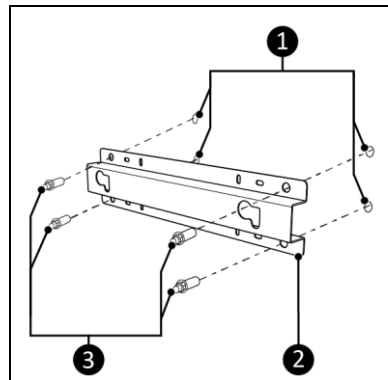

Figure 12
4. Place the bracket against the wall and mark the four holes (Figure 12, pos. 1). Make sure to place the bracket upright (see the “This side up” label on the bracket).
5. Drill four 10 mm holes at the marked spots (Figure 12, pos. 1).
7. Tighten the bracket (Figure 12, pos. 2) to the wall with the four nuts (Figure 12, pos. 3).